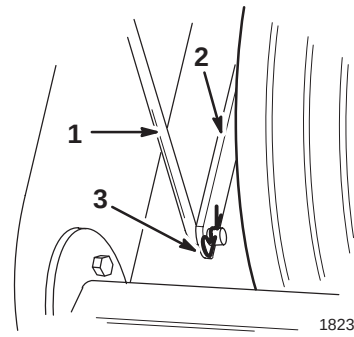

Figure 5
7. Secure the lower end of the height control rod to the bracket on the front wheel support with a hairpin cotter (Fig. 5).